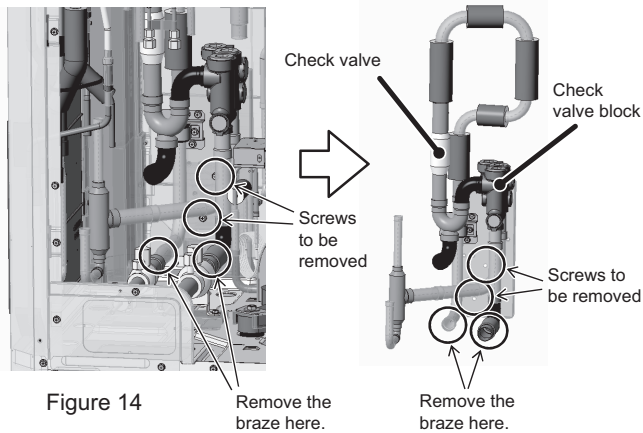

Figure 14
- (14) Remove the braze from the pipe where circled in the figure, and unscrew the two screws on the check valve block fixing plate to remove the check valve block assembly. (2 areas to remove braze from. 2 screws to be removed. See Figure 14.)